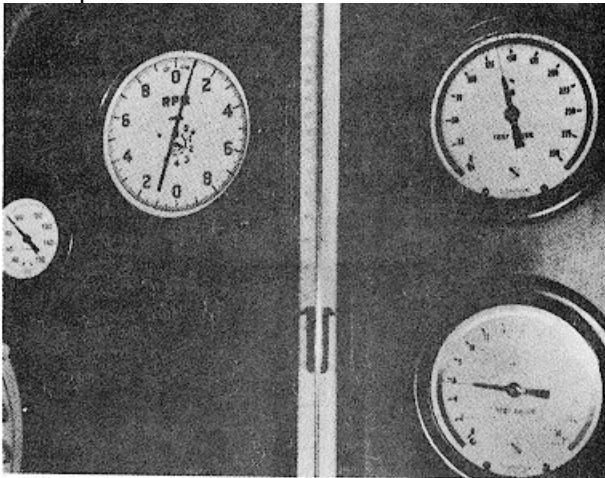

Fig. 5-1-16, F5108. Check governor cut off speed.
7. Open fuel pressure gauge valve. With throttle in full fuel position, increase pump speed until point at which fuel pressure just begins to decrease (peak point). This should occur at speed indicated by "Governor Cut-Off RPM". For example' 2130/2150 rpm on 2100 rpm pump. Fig. 5-1-16.
6. CC delivery should be as specified by "Throttle Leakage" in the calibration data. If not to specifications, screw front Fig. 5-1-16, F5108. Check governor cut off speed.